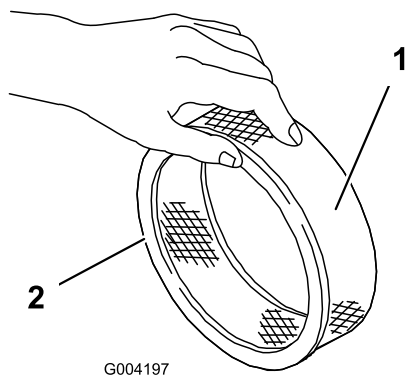

Figure 46
5. Inspect the paper filter for tears, an oily film, and damage to the rubber seal (Figure 46).
1. Carefully slide the foam pre-filter onto the paper filter (Figure 46).